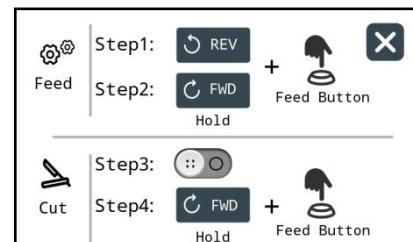

Figure 7b
- 1) Tap  in the settings page to enter this page. (Figure 7b).